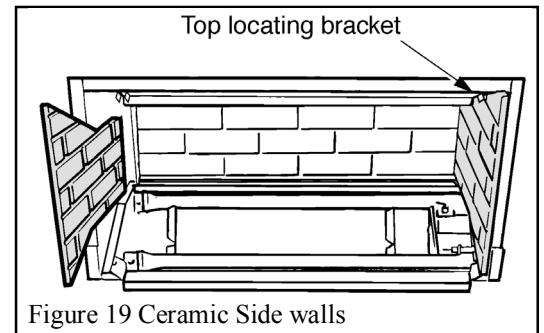

Figure 19 Ceramic Side walls
2. Place the ceramic side walls in position at the sides of the firebox. The sides are left and right handed. The sides should be held in position at the top by the angled brackets at the sides of the firebox and at the bottom by the edges of the black bar at the front of the firebox. See figure 19.